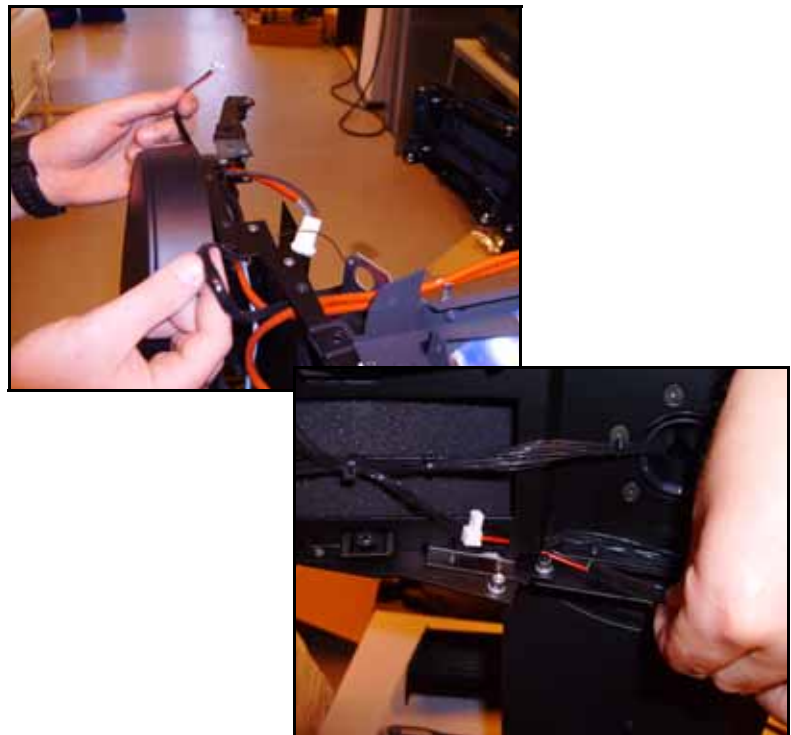

Figure 54
59. See Figure 54. Route the lamp fan leads from the fans to the front of the head as the original leads were routed.